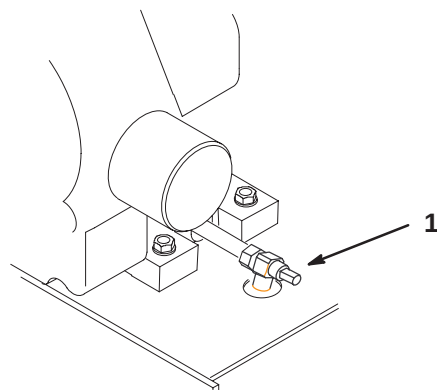

Figure 32
3. Place a pan below the oil drain. Rotate oil drain valve to allow oil to drain (Fig. 32).